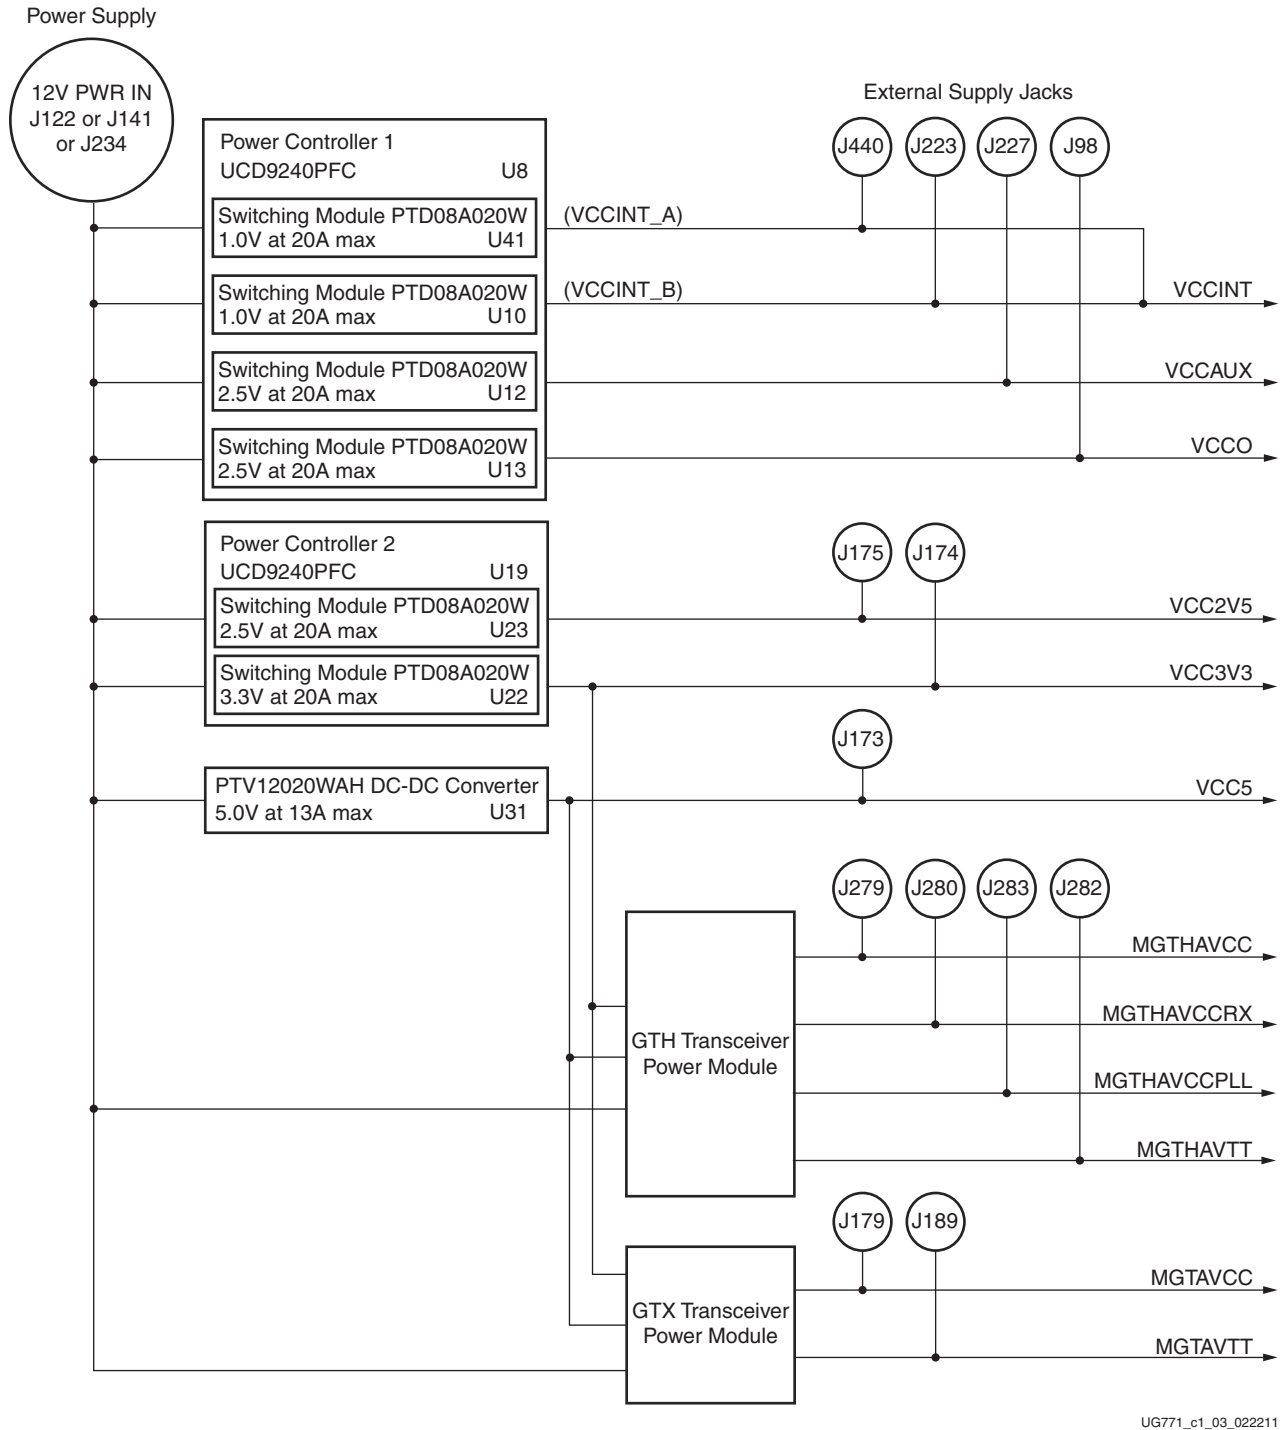

Figure 1-3: ML628 Board Power Supply Block Diagram
Figure 1-3 shows the onboard power supply architecture.
**Note:** Power regulation jumpers are not shown in Figure 1-3.